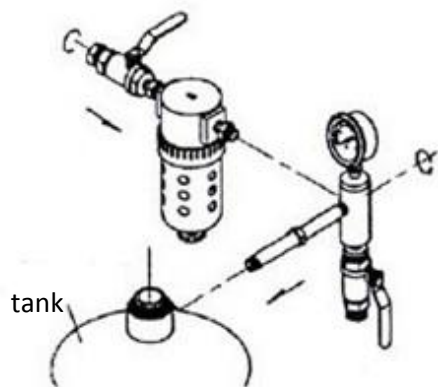

Figure 3
3. Place the tank (1) on the table so that the four clamps are facing upwards. Refer to Figure 3. Screw the air trap (17) and its parts into the hole on the side of the inlet pipe. Then screw the free end of the connecting pipe (13) to the inlet pipe (14) and the pressure gauge (15) mounted in the threaded hole on the side of the filler pipe on the top of the tank. Make sure that the inlet pipe and the pressure gauge are vertical.